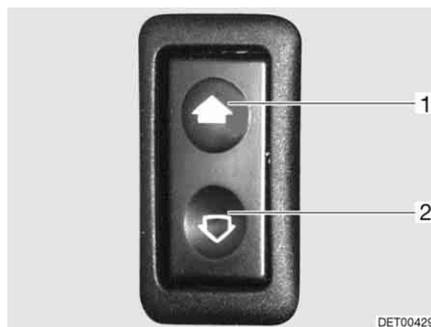

Fig. 32 Switch for electrical window winders
- Opening:* ■ Press lower part of the switch (Fig. 32,2).
- Closing:* ■ Press upper part of the switch (Fig. 32,1).